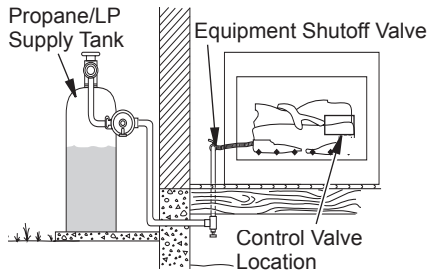

Figure 6 - Checking Gas Joints (Propane/LP Gas Only)
3. Check all joints from gas meter to equipment shutoff valve for natural gas or propane/LP supply to equipment shutoff valve for propane/LP (see Figure 6 or 7). Apply noncorrosive leak detection fluid to all joints. Bubbles forming show a leak.